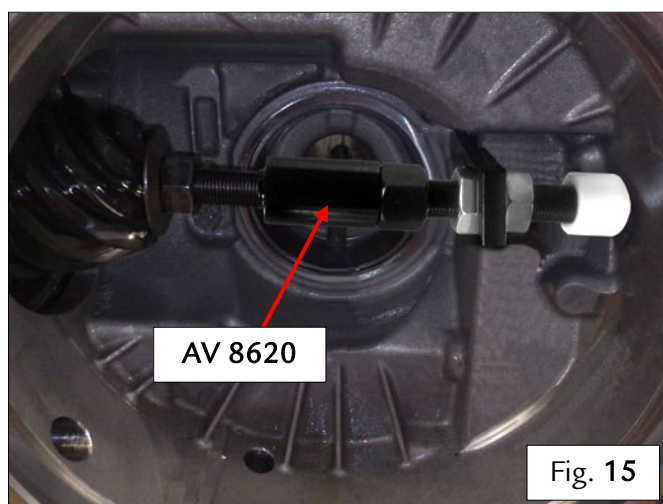

Fig. 15
- Wait for the ATF clutch fluid to drain completely into the container – Fig. 15.
- Using the extractor tool 95978620 (AV 8620), separate the differential housing from the plate – Fig. 15.